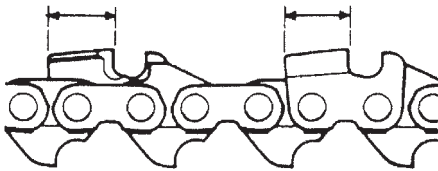

Fig. 47
- 5) Keep all cutters the same length. (Fig. 47)